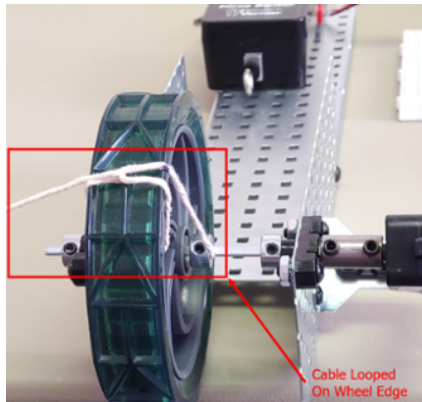

Figure 5. Cable Looped on Wheel Edge
- c. Loop the cable back through the end that is attached to the winch drum as shown in Figure 5. The cable loop must be in the center of the wheel circumference.